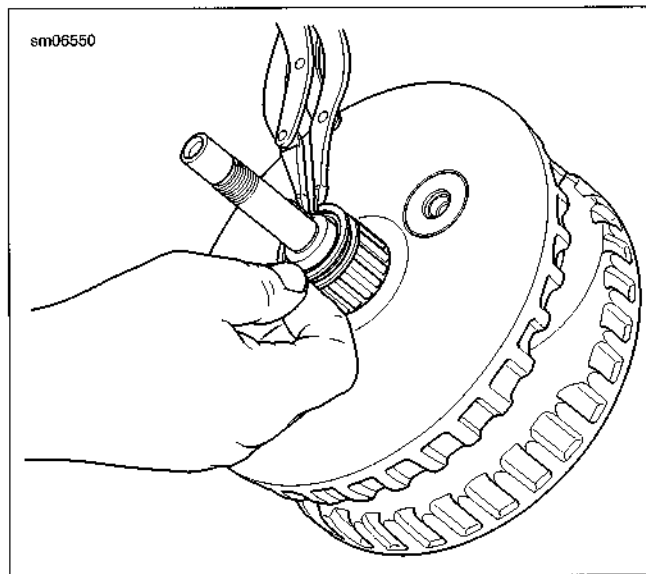

Figure 3-110. Installing Pinion Shaft Bearing and Retaining Ring
- See Figure 3-110. Using TRANSMISSION SHAFT RETAINING RING PLIERS (Part No. J-5586-A), install new retaining ring in groove of pinion shaft bearing inner race. Make sure that retaining ring is fully seated in groove.